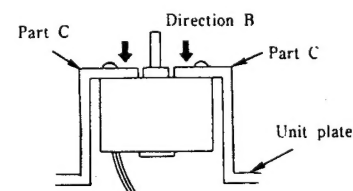

Fig. 9
3) At the time of service replacement of the DC motor (D2), do not apply excessive force in direction B. When part C of the unit plate is misshapen, it will cause eye pattern deterioration. (Fig. 9)